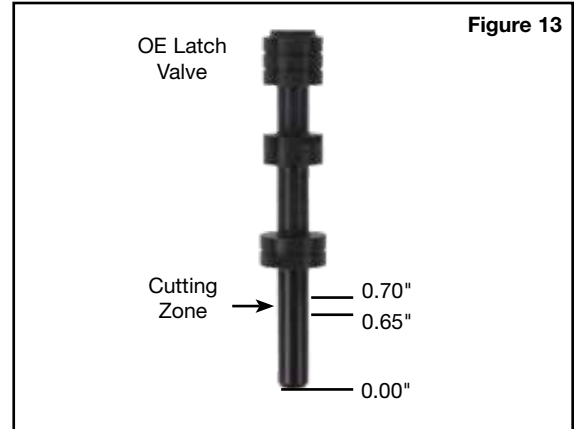

Figure 13
- d. Measure between 0.65–0.75" (cutting zone) from the base of the valve stem (Figure 13).